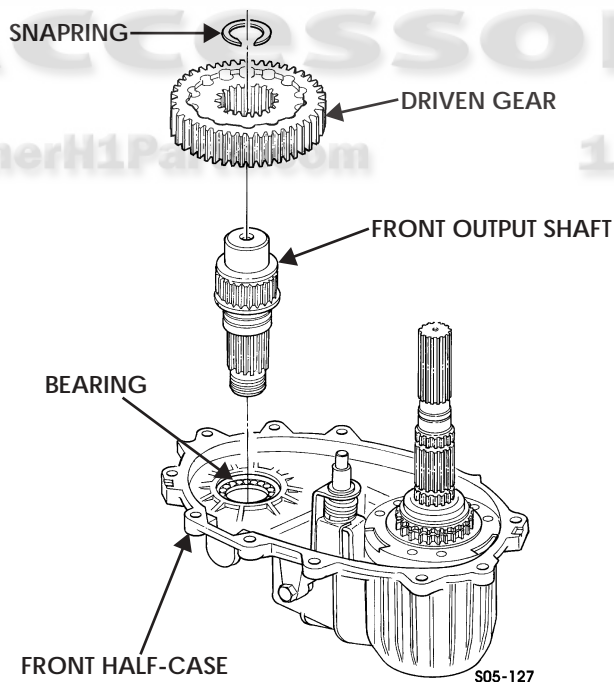

Figure 5-180: Sprocket Snapping
25. Install driven gear on front output shaft with snapring (Figure 5-180).